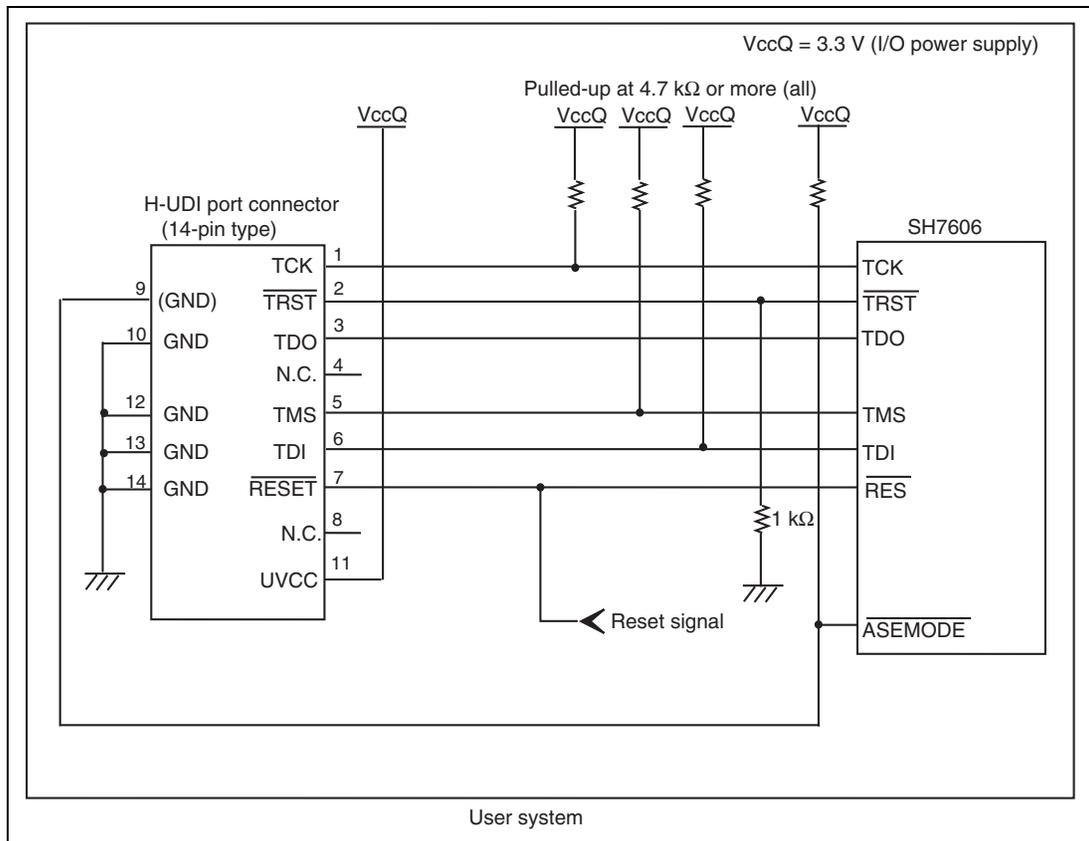

Figure 1.2 Recommended Circuit for Connection between the H-UDI Port Connector and MPU when the Emulator is in Use
Figure 1.2 shows a recommended circuit for connection between the H-UDI port connector (14 pins) and the MPU when the emulator is in use.
- (1) When the emulator is used: /ASEMODE = 0
- (2) When the emulator is not used: /ASEMODE = 1Figure 1.2 shows an example of a circuit that allows the /ASEMODE pin to be GND (0) whenever the emulator is connected by using the user system interface cable. When the /ASEMODE pin is changed by switches, etc., ground pin 9. Do not connect this pin to the /ASEMODE pin.
5. When the power supply of the user system is turned off, supplying VccQ of the user system to the UVCC pin reduces the leakage current from the emulator to the user system. A level shifter that is activated by the internal power supply or user power supply (changed by the switch) is installed in the interface circuit of the emulator. If the user power is supplied to the UVCC pin, the level shifter is not activated as long as no user power is supplied. When the power supply of the user system is turned off, no current flows from the user interface. The I/O voltage level of the user system interface can be the same as that of the VccQ. To operate the emulator with low voltage (lower than 3.3 V), the VccQ must be supplied to the UVCC pin. Make the emulator's switch settings so that the VccQ will be supplied (SW2 = 1 and SW3 = 1) (as shown in figure 1.2).
6. The resistance value shown in figure 1.2 is recommended.
When the circuit is connected as shown in figure 1.2, the switches of the emulator are set as SW2 = 1 and SW3 = 1. For details, refer to section 3.8, Setting the DIP Switches, in the SuperH™ Family E10A-USB Emulator User's Manual.